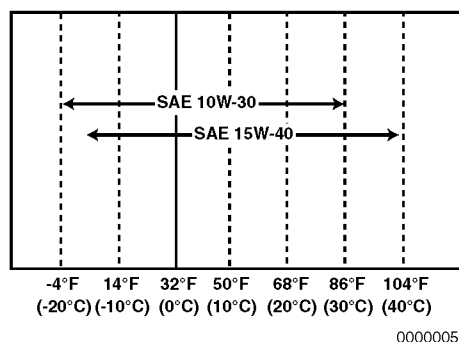

Figure 3-4
- Select the oil viscosity based on the ambient temperature where the engine is being operated. See the SAE Service Grade Viscosity Chart (Figure 3-4).
Select the appropriate engine oil viscosity based on the ambient temperature shown in the SAE Service Grade Viscosity Chart in Figure 3-4.